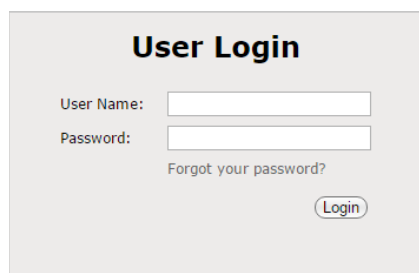

Figure 2
3. A User Login window, (Figure 2) will appear. There are two available user names, **u**clock and **s**clock, which represent the user and service access levels. The user security level allows access to everything but the Configuration Tab.